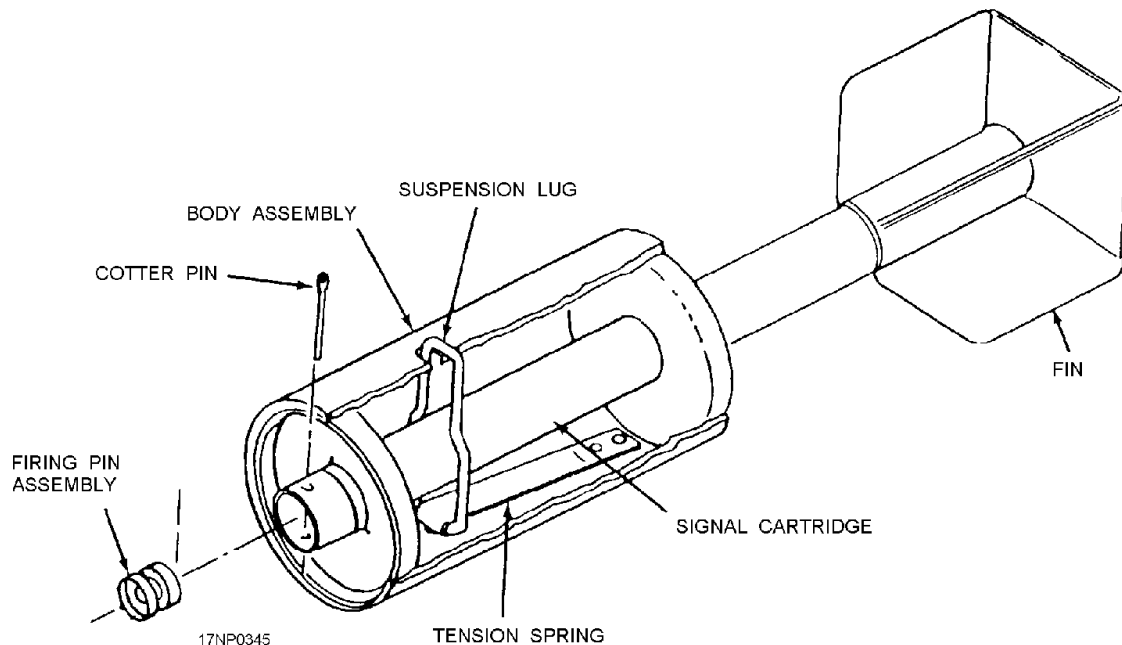

Figure 13-13.—BDU-48/B practice bomb.
2. Remove the firing device and inspect for rust or deformation. Refer to figure 13-13 for identification of the components.